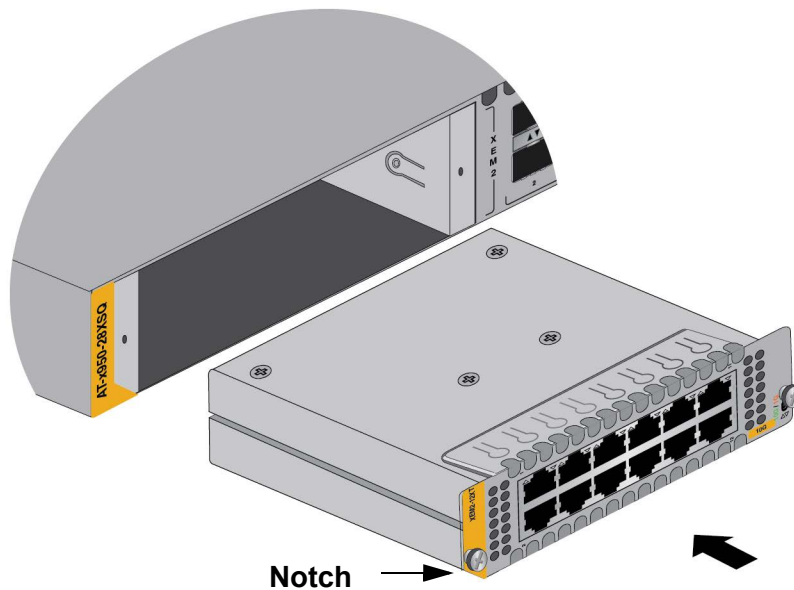

Figure 44. Sliding the XEM2 Line Card into the Slot
- Position the line card with the notch on the faceplate in the bottom left corner, as shown in Figure 44, and carefully slide it into the slot.